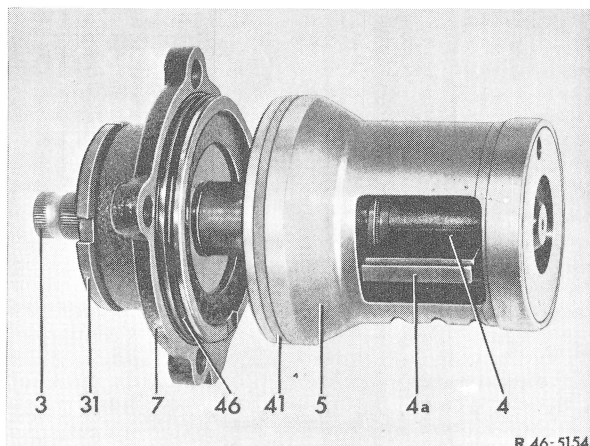

Fig. 27
26 Carefully install working piston (5) complete with steering worm (3), steering nut (4) and bearing cap (7) into steering case, while introducing straight-edge of steering nut into groove of control valve (Fig. 27).